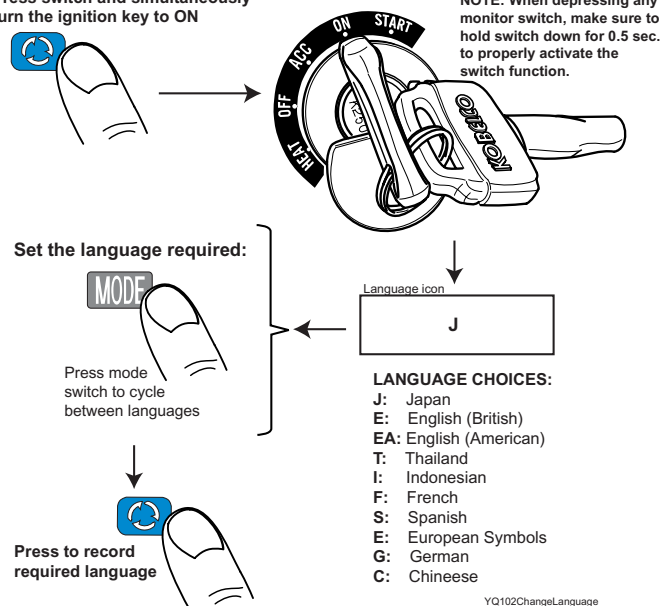

FIGURE 2.13C
12. Changing Warning Display Language – FIGURE 2.13C